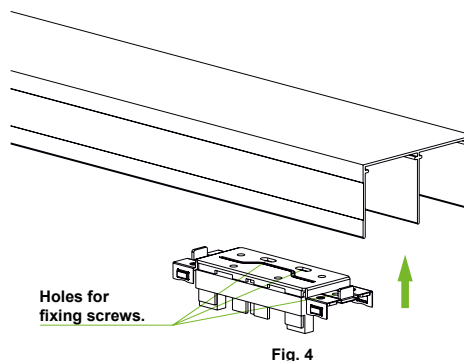

Fig. 4
- 4 Install the actuator inside of the top track. Place it on that side where the door will be (Fig. 4). Install the door inside of the tracks away from the actuator. After that, slide the door to the edge of the wardrobe. Then slide the door back, to activate the soft closer. Fix the actuator with screws.